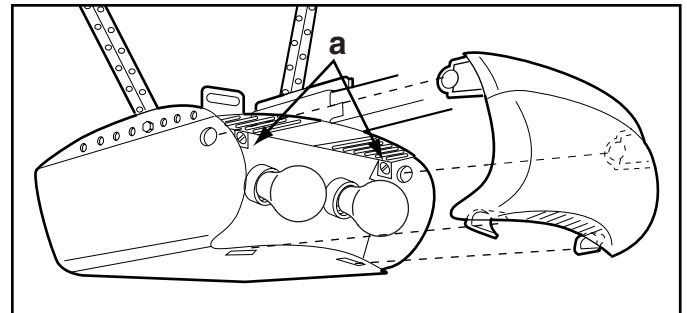

Figure 3
5. *Figure 3.* Remove the cover by gently pulling it forward, releasing its metal tabs (**b**) from slots on the top rear of the chassis.